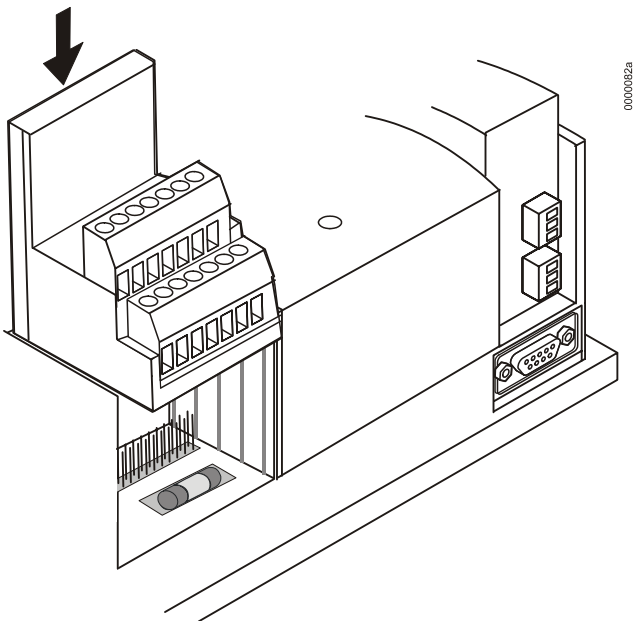

Fig. 67. Attaching screw terminal block
8. Attach the terminal blocks to the housing as shown in Fig. 67.